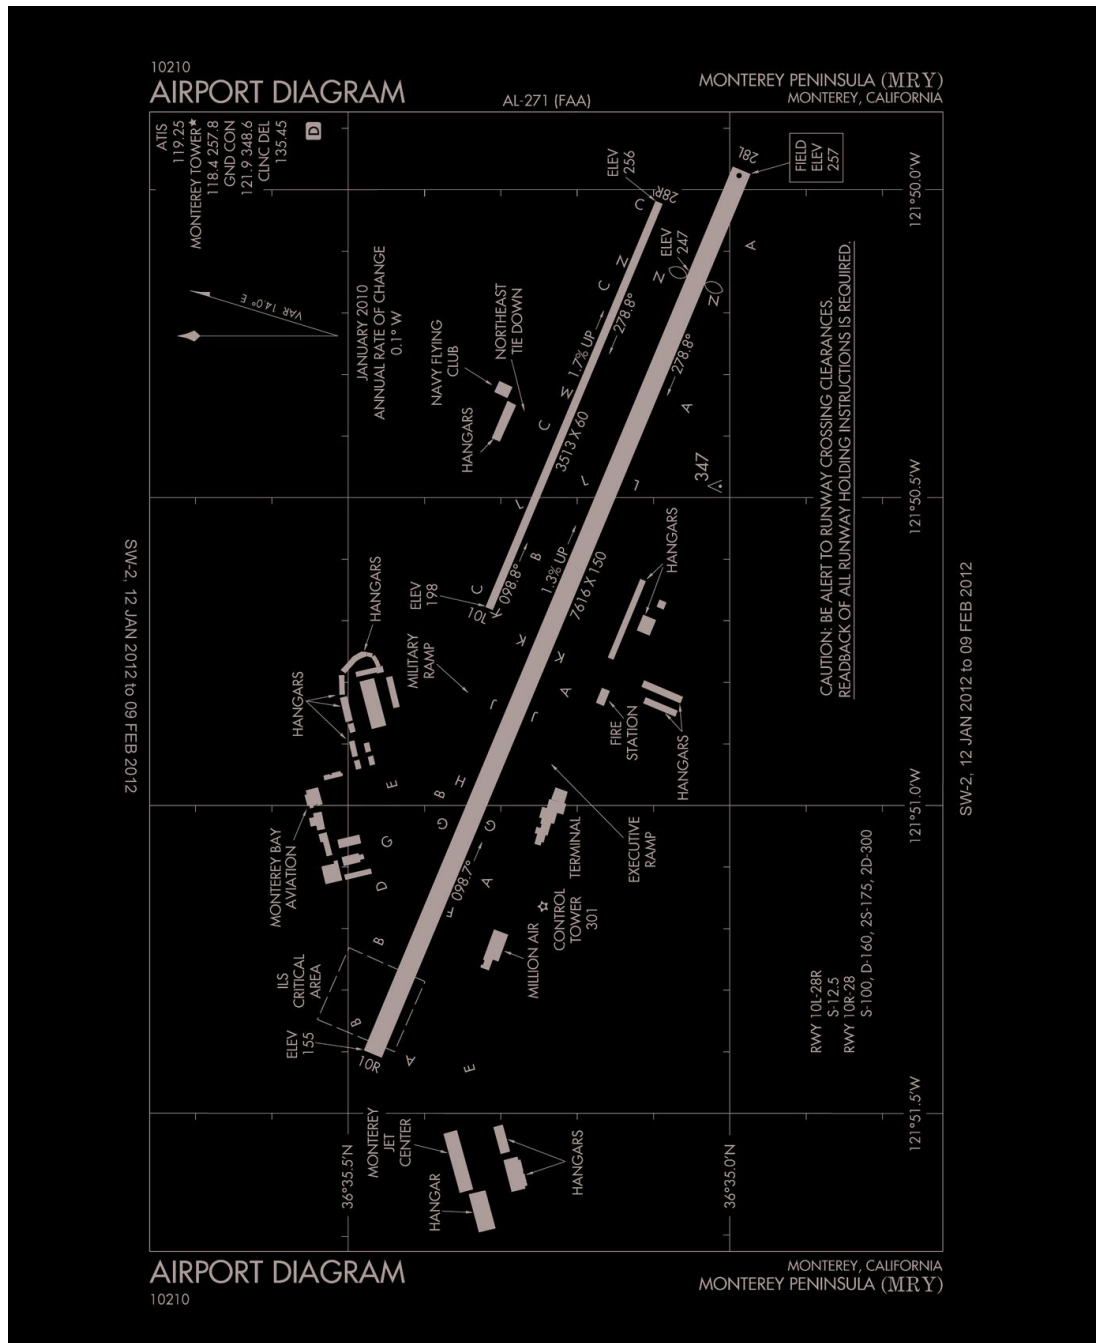

Figure 2-14. Airport Diagram of Monterey Peninsula (MRY), Monterey, California.
- The pilot should be familiar with the parking, ramp, and taxi environment. This can be done by having an airport diagram, if available, out and in view at all times. [Figure 2-14]